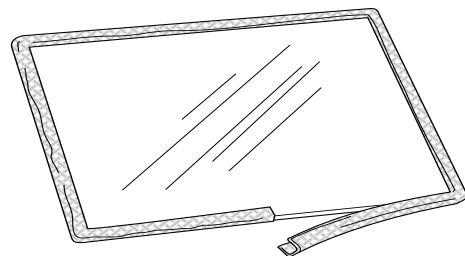

Figure 55. Wrap the gasket around the glass panel.
1. Wrap the new gasket material evenly around the edge of the glass, peeling back the protective strip to expose the adhesive as you go. See fig. 55. Press the adhesive side down onto the glass surface. Do not stretch the gasket.